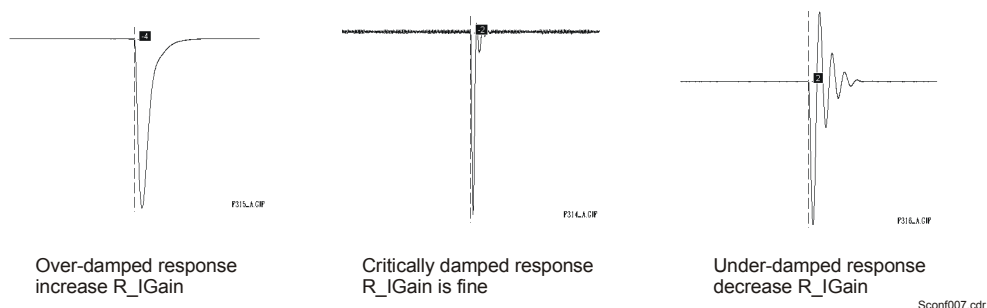

Figure 26 Example waveforms for Step 6.
- 6) On the uploaded trace, note the general shape of POS\_LAG at the transition points of TORQFLOW. The objective is to find the setting of R\_IGain which reduces POS\_LAG to zero in the shortest time without increasing over-shoot. Referring to the waveforms in Figure 26, increase or decrease R\_IGain and repeat steps 4 through 6 until a satisfactory critically damped response is obtained. Use large increments of R\_IGain (50% or so) initially until the upper and lower boundaries of a critically damped response are found, then smaller increments until the best overall R\_IGain setting is found. The trace zoom feature may be used to expand the area of interest.